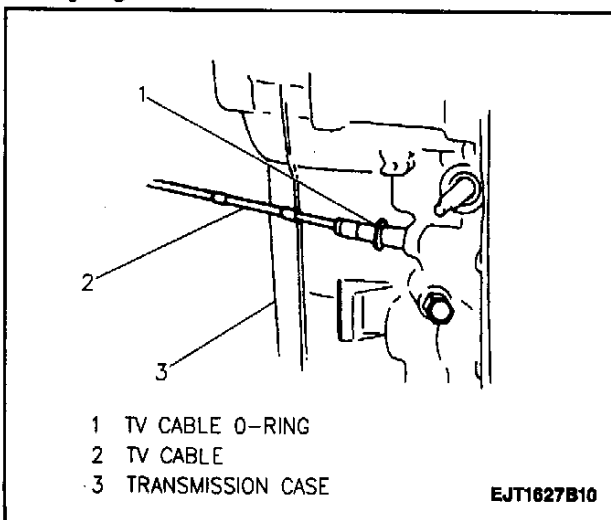

Figure 113—TV Cable and O-Ring (03-72LE, 4-Speed)
Figures 113 through 117
2. TV cable to transmission case (Figure 113).